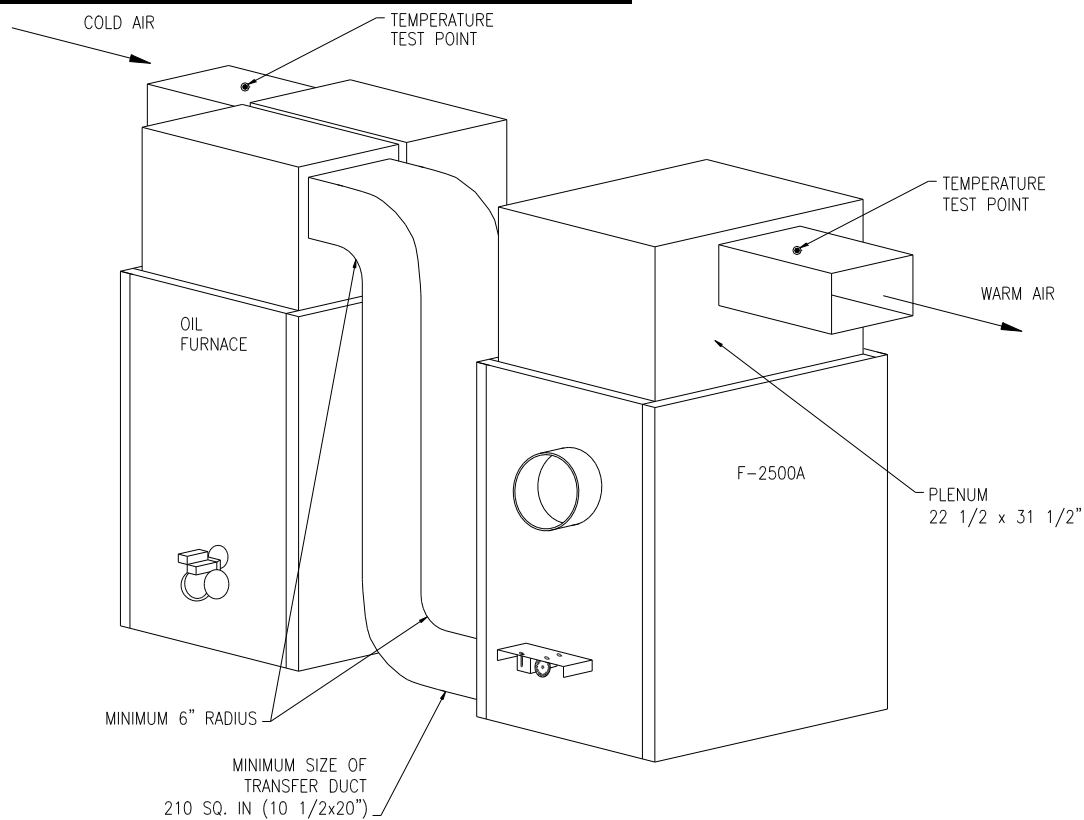

FIG. 7
- Once the temperature rise has been determined, the Add-On Furnace and new ductwork can be installed. (See Section on Ductwork Modifications). Once installed temperature measurements are again taken at the cold air return plenum of the oil furnace, and at the warm air plenum of the wood add-on furnace. (See Fig. 7).
- A transfer duct (minimum cross-sectional area of 210 square inches (10" X 20")) is connected from the oil furnace plenum to the F-2500A casing side. The transfer duct elbows must have a minimum inside radius of 6 inches. The transfer duct enters the F-2500A casing side as shown in Figure 7.